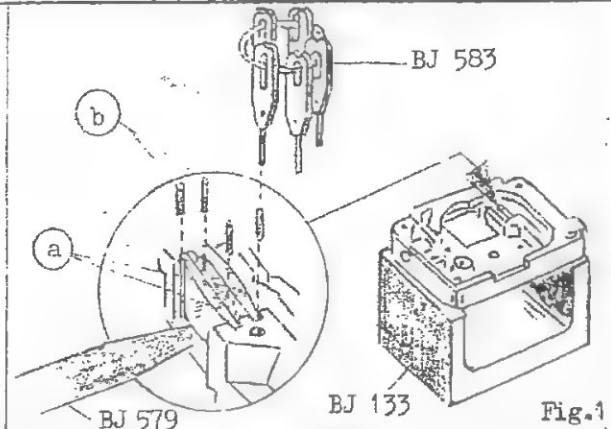

Fig. 1
1.1 Collecting lenses (fig. 1)